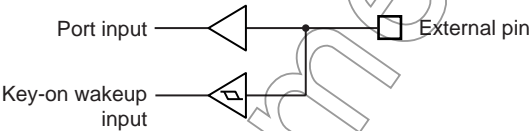

Figure 13-2 Key-on Wakeup Input and Port Input
- Note 3: The input circuit of Key-on Wakeup input and Port input is separated, so each input voltage threshold value is different. Therefore, a value comes from port input before STOP mode start may be different from a value which is detected by Key-on Wakeup input (Figure 13-2).